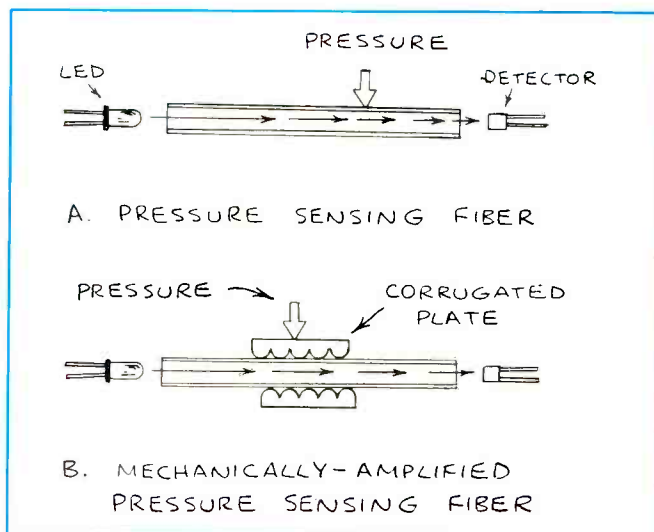
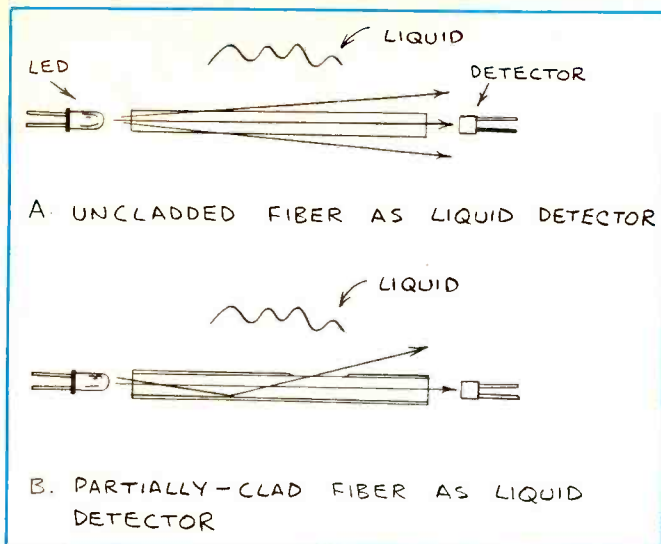

Fig. 5. A direct-mode fiber-optic pressure sensors.
Fig. 6. Direct-mode fiber-optic liquid sensors.
Several kinds of direct-mode fiber-optic sensors are illustrated in Fig. 5 and Fig. 6. In each of these sensors, it's the optical fiber itself that responds to an external stimulus.
Illustrated in Fig. 5(A) is a simple movement or pressure sensor. Light passing through a fiber is slightly attenuated when the fiber is bent, even slightly. This attenuation can be detected by means of a photodetector and amplifier. A comparator connected to the output of the amplifier can be adjusted to trigger a LED or beeper when the fiber's movement exceeds a desired threshold.
The sensitivity of the fiber to pressure can be increased by placing it between two rough surfaces, as shown in Fig. 5(B). Pressure applied to the fiber will then cause many tiny bends (or micro-
The sensitivity of both methods shown in Fig. 5 can be greatly increased if a laser diode or helium-neon laser is used as the optical source. Very slight movements of the fiber will cause significant changes in the speckle pattern that emerges from the fiber. You can see these changes if the laser beam is visible; just point the end of the fiber at a piece of paper.
Figure 6 illustrates how a direct-mode optical-fiber sensor can detect the presence or absence of a fluid. In Fig. 6(A), a fiber with no cladding is used as a sensor. When a liquid comes in contact with the core, some of the light rays will be coupled into the liquid because the index of refraction of the liquid is greater than that of air.
Illustrated in Fig. 6(B) is how a standard optical fiber with a cladding can be used as a liquid detector. All that's needed is to remove some of the cladding from the portion of the fiber intended to sense the absence or presence of a liquid. This can be done with very fine sandpaper. Bending the section of the fiber where the cladding has been removed increases the sensitivity of the detector. (Can you figure out why?)